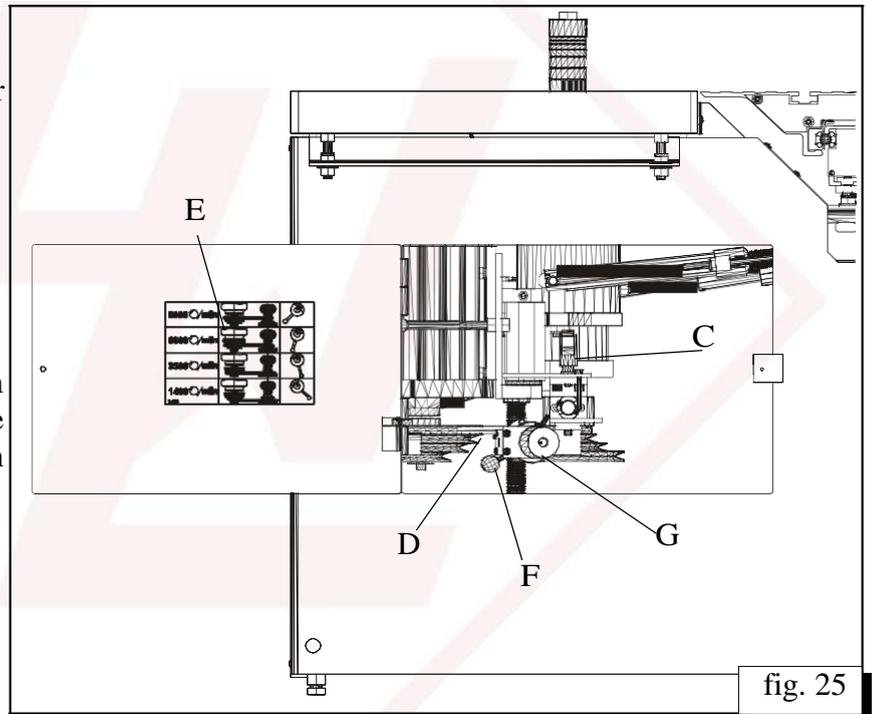

fig. 25
- Release handle C (fig. 25) in order to loose the belt D. Move the belt on the pulleys as per the instructions on the information plate E for the rotations of the spindle, situated at the internal side of the door.